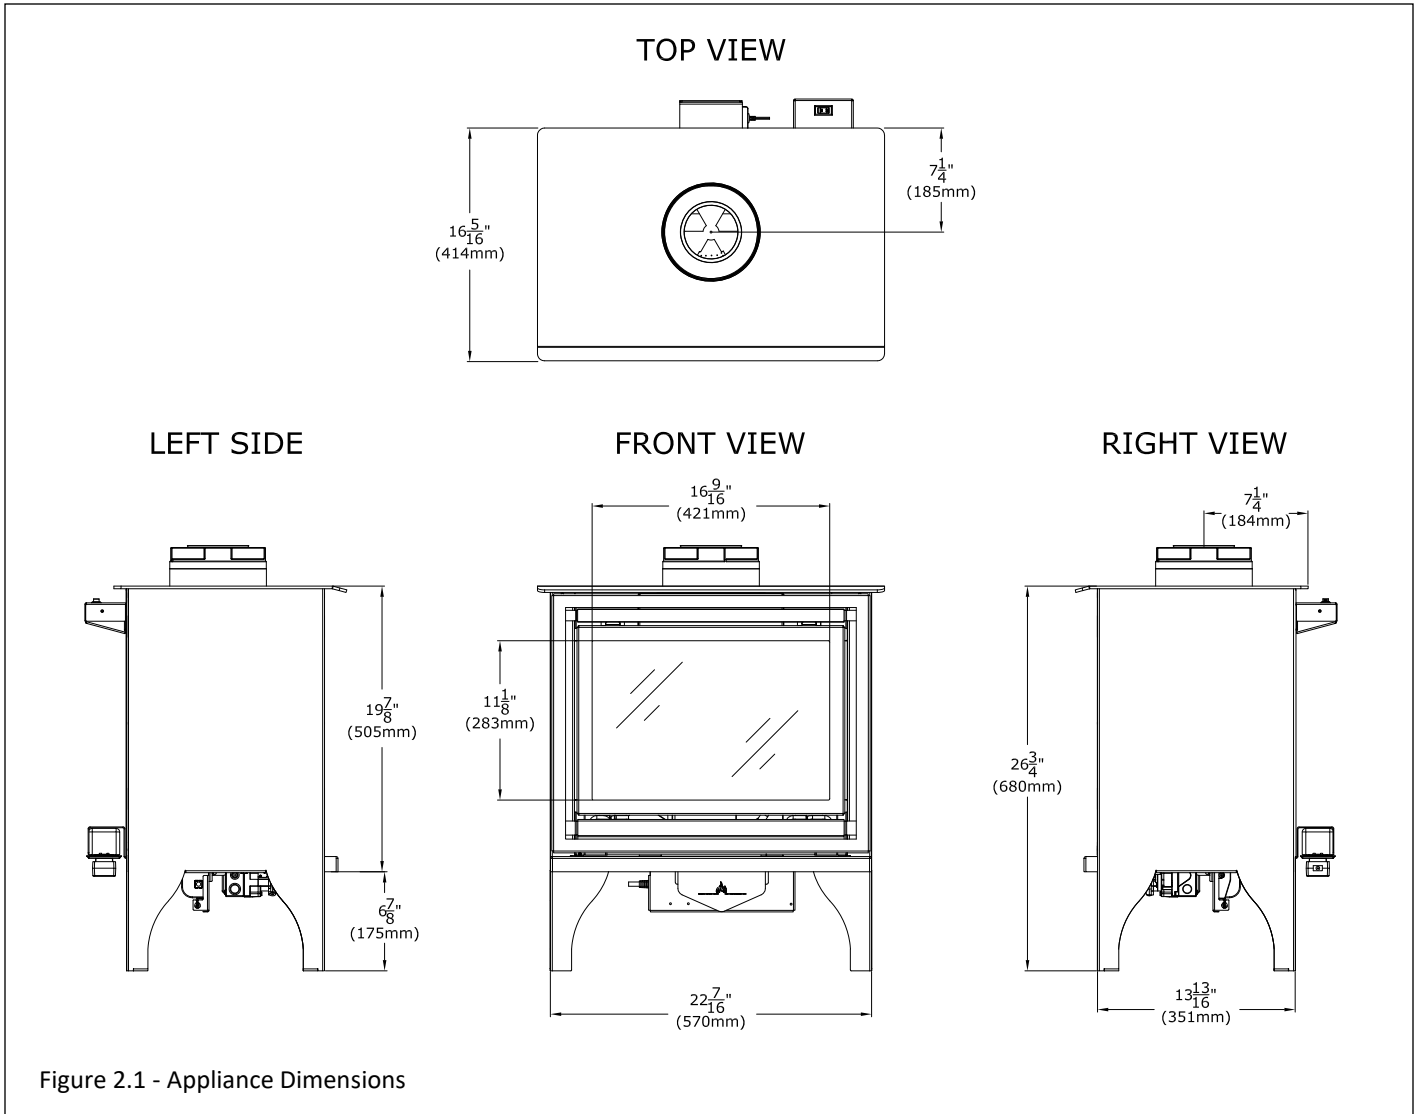

Figure 2.1 - Appliance Dimensions
- The gas line should be run to the point of connection where the shut-off valve and flexible gas line will connect. See Figure 2.1, Appliance Dimensions on page 9.